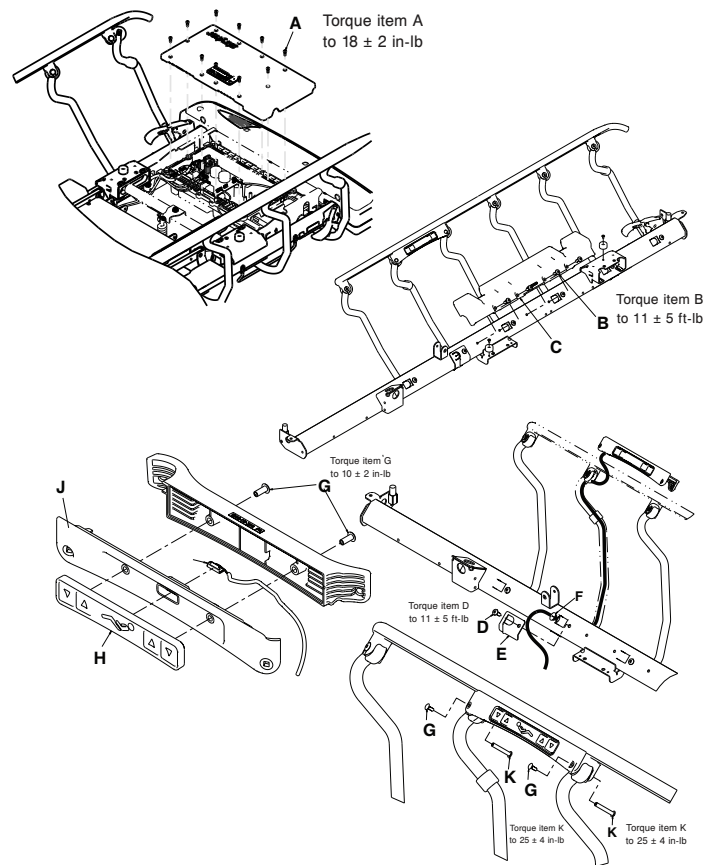

Figure 33 – Siderail cable replacement
5. Using a #2 Phillips screwdriver, remove the 10 pan head tapping screws (A) that secure the control board cover to the control box bottom (Figure 33). Remove and save the control board cover.